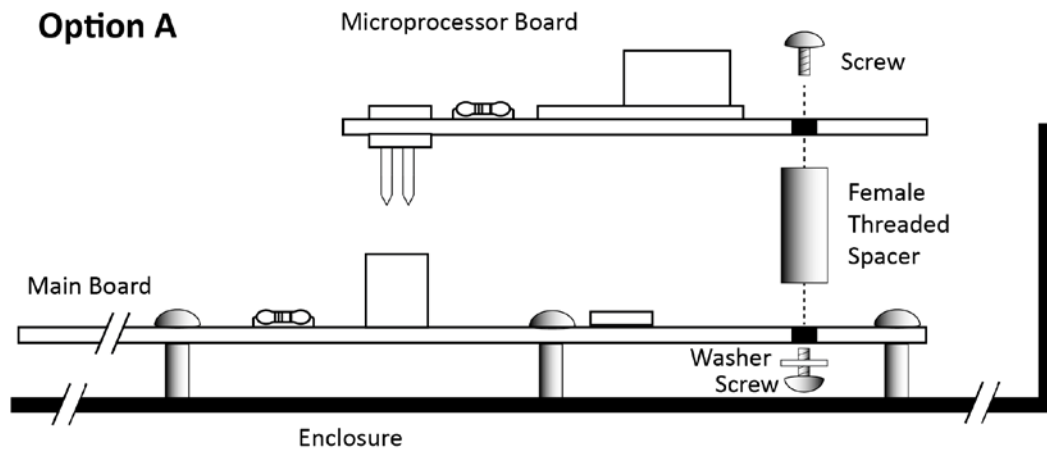

Figure 5. Option A Installation
2. Attach the threaded standoff to the top of main board by routing one of the screws up through the underside of the main board and securing it to the standoff. Use Figure 5 as a guide.